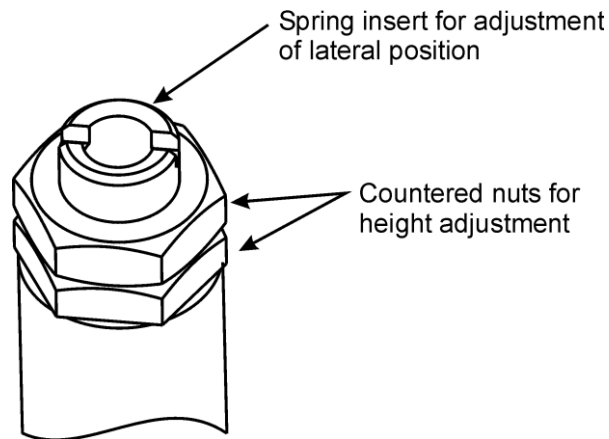

Figure 7. VT STM spring suspension adjustment, schematic diagram.
- Slacken the countered nuts, see figure 7.
In addition you can turn the whole insert to **adjust the lateral position of the VT STM Base Plate**, see figure 7.